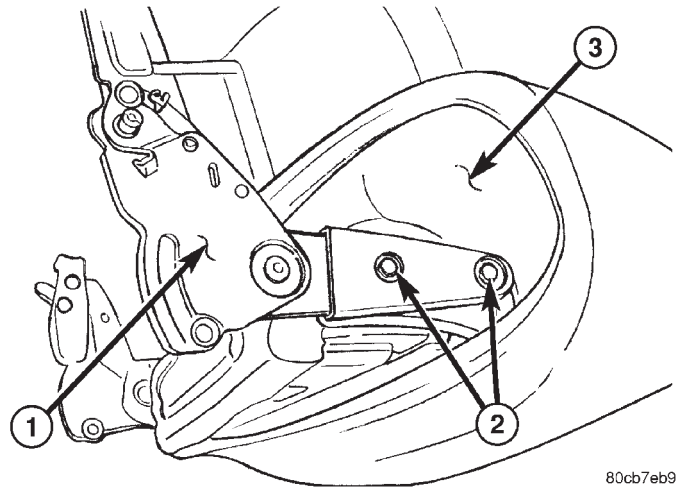

Fig. 3 SEAT BACK RECLINER
(1) Remove the seat back. (Refer to 23 - BODY/SEATS/SEAT BACK - FRONT - REMOVAL)
(2) Position the seat back cover out of the way and remove the bolts. (Fig. 3)
(3) Remove the recliners from the seat back frame.